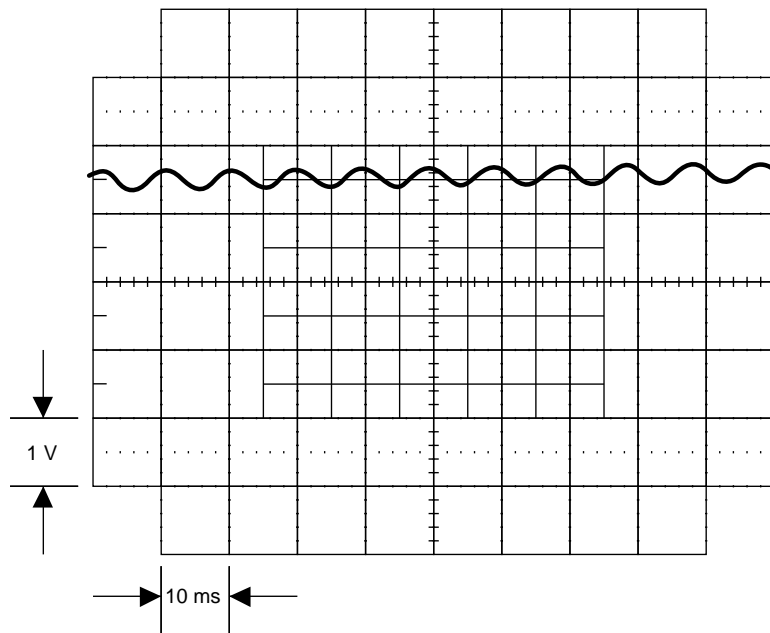
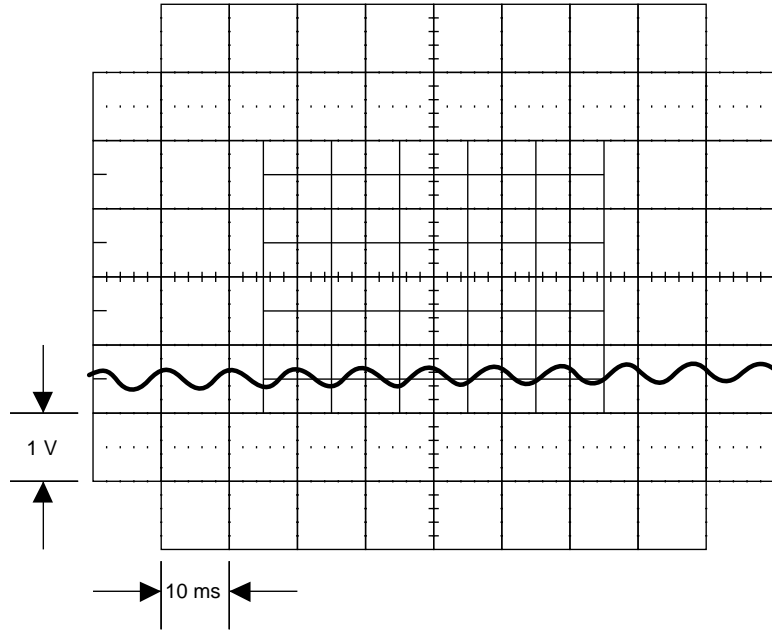

Figure 5-6. Waveform at Pin 11 of K2
Figure 5-7. Waveform at Pin 6 of K2
3. Check the Complimentary Drive Circuit. Set the 5700A to 200 μ A, standby. Set the external ac reference to 7.0V at 1 kHz. Connect an oscilloscope to pin 11 of K2 and verify that it displays a signal similar to Figure 5-6. Connect the oscilloscope to pin 6 of K2 and verify that it displays a signal similar to Figure 5-7. If a failure is detected, check Q2, Q3, Q18, Q19, K2, and their associated components in the Complimentary Drive Circuit.